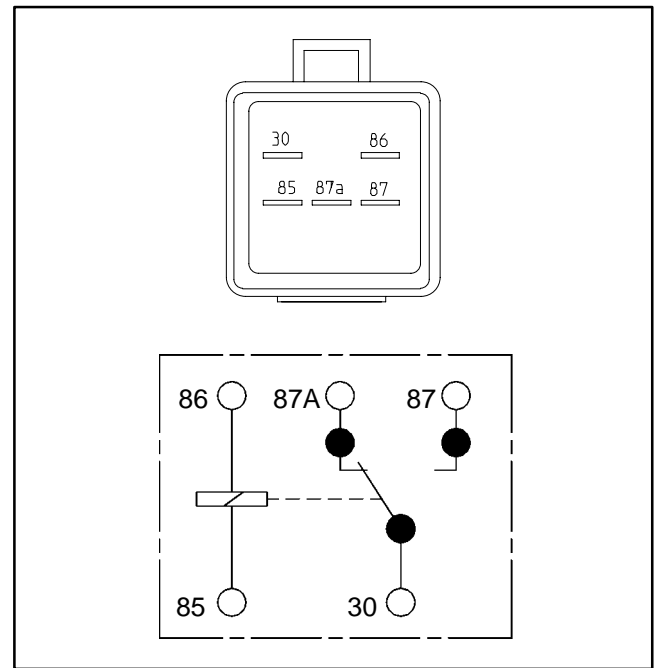

Figure 26
2. Using a multimeter (ohms setting), measure coil resistance between terminals 85 and 86 (Fig. 26). Resistance should be between 70 and 90 ohms.